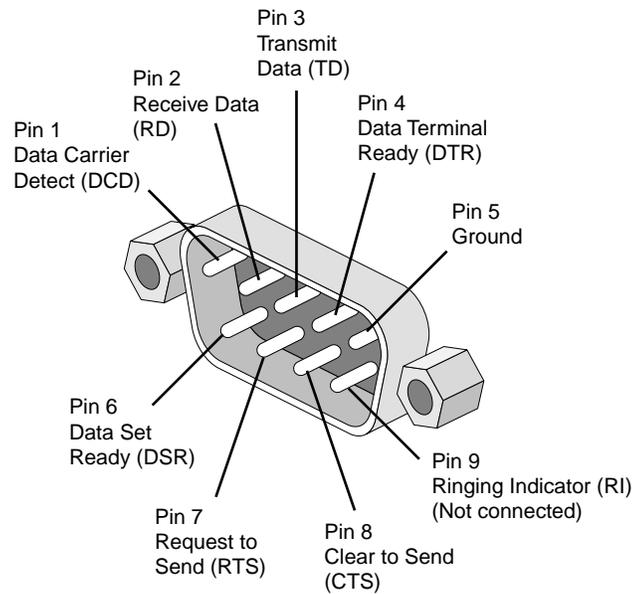

Figure 2-1 Console Port Pin Assignments
- If you have a server without an L2 controller (such as a smaller SGI Origin 3200 server), you can connect a dumb terminal to the C-brick's console port connector. (Figure 2-1 shows the console port connector pinouts.)